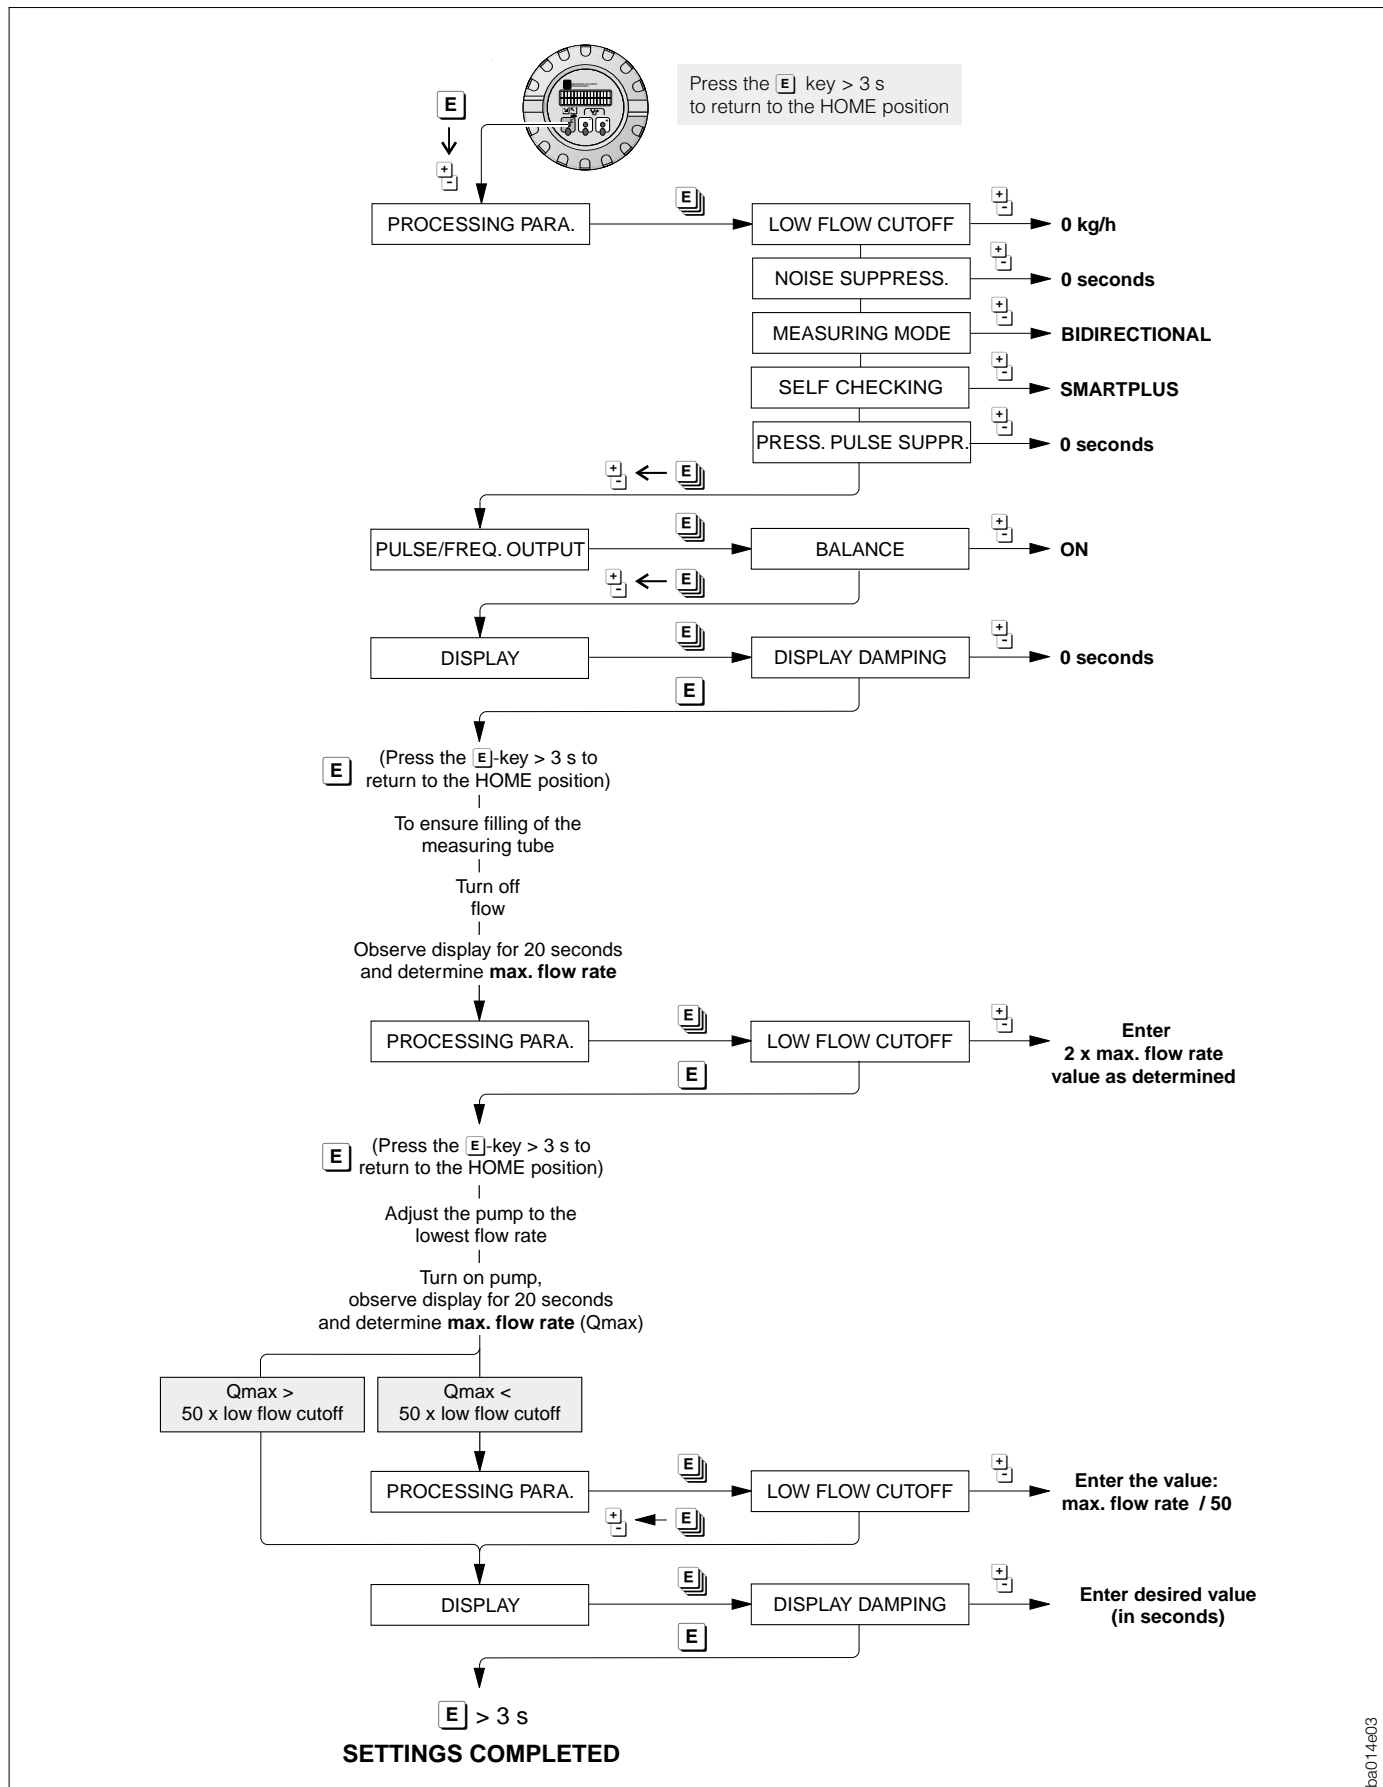

Fig. 27
- Process can be interrupted during the setting procedure → see Fig. 27, page 44.